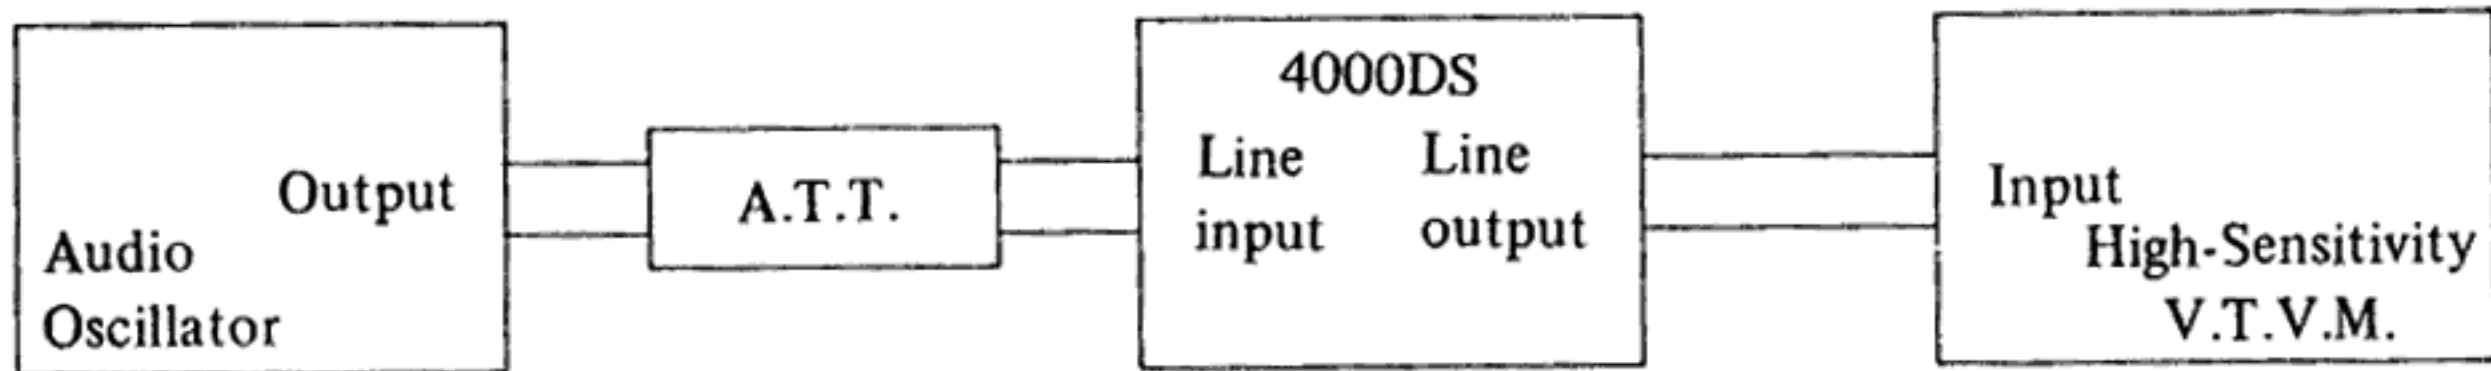

Fig. 12
1. PLAYBACK LEVEL ADJUSTMENT (See Figs. 12, 13, and 14)
2. RECORDING LEVEL ADJUSTMENT (See Figs. 12, 13, and 14)